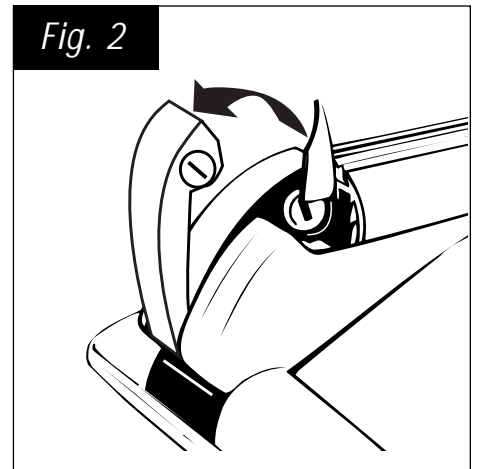

Fig. 2
1. Push the lock cover up to expose the keyhole (see figure 2).